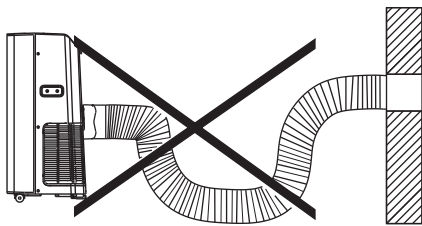

Fig.20
**DO NOT OVER BEND THE DUCT (SEE Fig.20)**